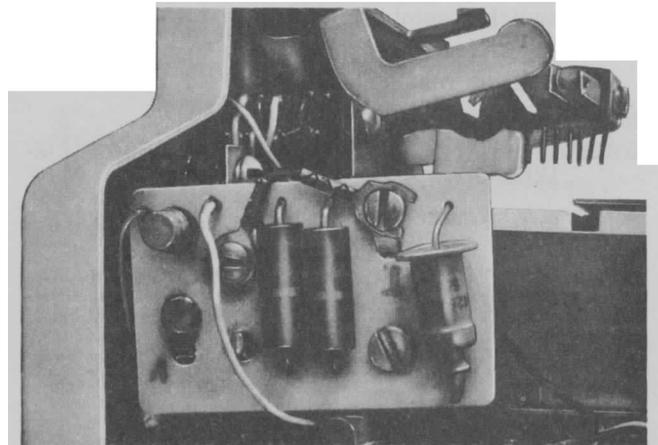

Fig. 13—Polarity Guard Position
(1) Remove the 635A5 key by springing the support brackets inward until key can be removed from pins. It is not necessary to disconnect the line plugs on the rear of the key.
(2) Mount the guard assembly to the left-hand bracket in the position shown in Fig. 13 using the screw provided with the assembly.